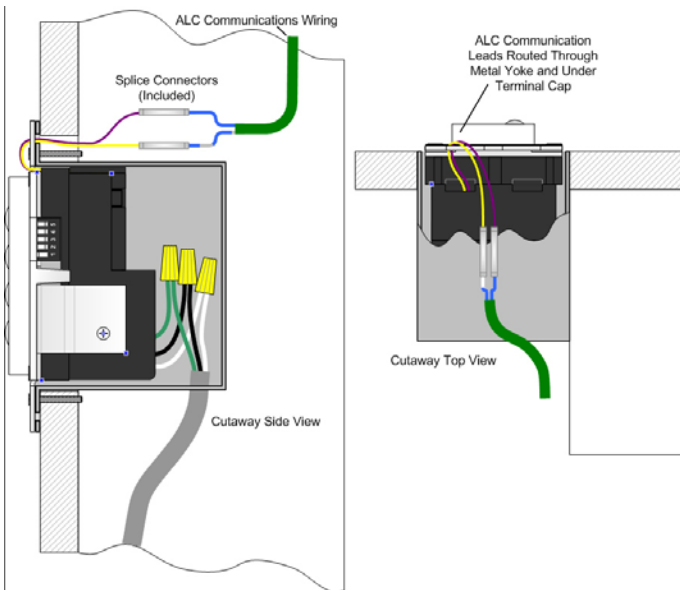

Figure 6. Recommended Installation Method
Step 8: Push the communication cable back into the wall and position the CL2 conductors to allow flush installation of the ALC module to the finished wall surface. Fasten the Scene Switch into the wall box with the screws provided. See Figure 6.